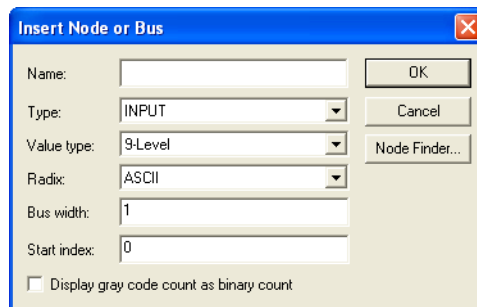
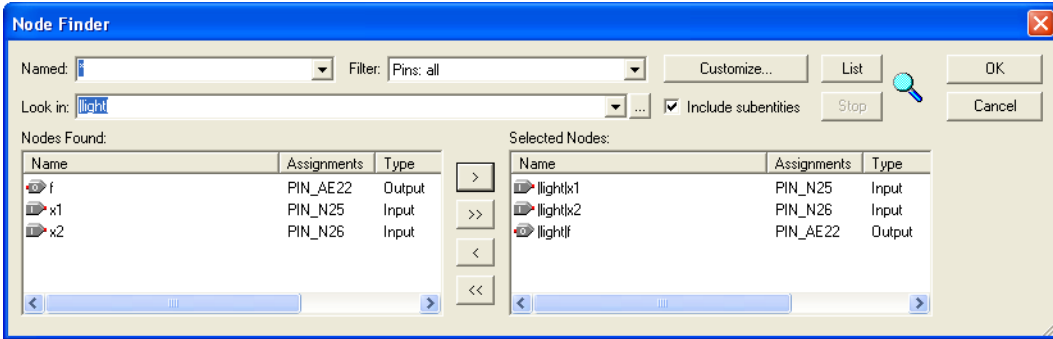
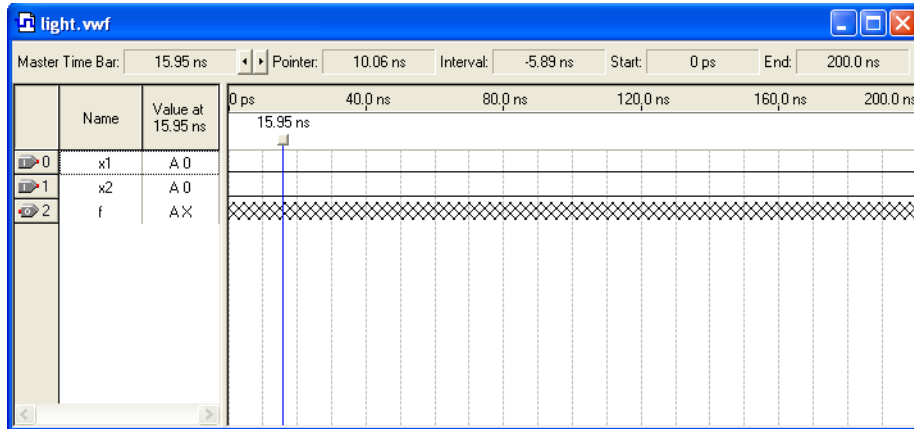

Figure 33. The Insert Node or Bus dialogue.
Figure 34. Selecting nodes to insert into the Waveform Editor.
Figure 35. The nodes needed for simulation.
- Next, we want to include the input and output nodes of the circuit to be simulated. Click **Edit > Insert > Insert Node or Bus** to open the window in Figure 33. It is possible to type the name of a signal (pin) into the Name box, but it is easier to click on the button labeled **Node Finder** to open the window in Figure 34. The Node Finder utility has a filter used to indicate what type of nodes are to be found. Since we are interested in input and output pins, set the filter to **Pins: all**. Click the **List** button to find the input and output nodes as indicated on the left side of the figure.
Click on the $x1$ signal in the Nodes Found box in Figure 34, and then click the $>$ sign to add it to the Selected Nodes box on the right side of the figure. Do the same for $x2$ and f . Click OK to close the Node Finder window, and then click OK in the window of Figure 33. This leaves a fully displayed Waveform Editor window, as shown in Figure 35. If you did not select the nodes in the same order as displayed in Figure 35, it is possible to rearrange them. To move a waveform up or down in the Waveform Editor window, click on the node name (in the Name column) and release the mouse button. The waveform is now highlighted to show the selection. Click again on the waveform and drag it up or down in the Waveform Editor.